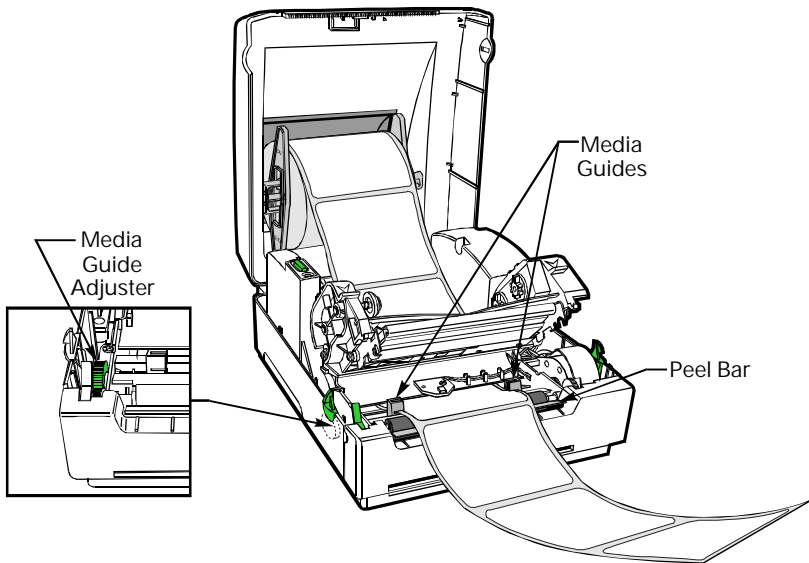

Figure 13
8. Refer to Figure 13. Thread the media through the media guides.
**NOTE:** *If the media guides must be changed to accommodate the width of the media, turn the green media guide adjuster (refer to Figure 13). The media guides should just touch, but not restrict, the edges of the media roll.*
9. Continue to thread the media until it is approximately 8" (203 mm) past the peel bar (refer to Figure 13).